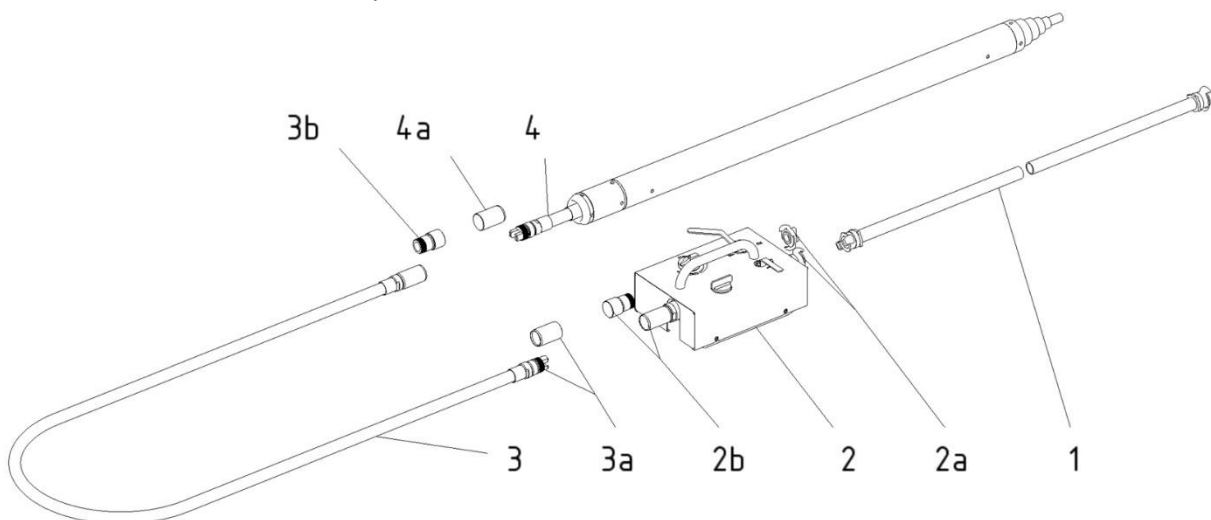

Figure 9.3.1.
To connect the air hose (Figure 9.3.1.) proceed as follows:
- a) Connect the Air hose (see Figure 9.3.1 Connecting the Air Hose).
- c) Move the direction handle in Forward position (F).